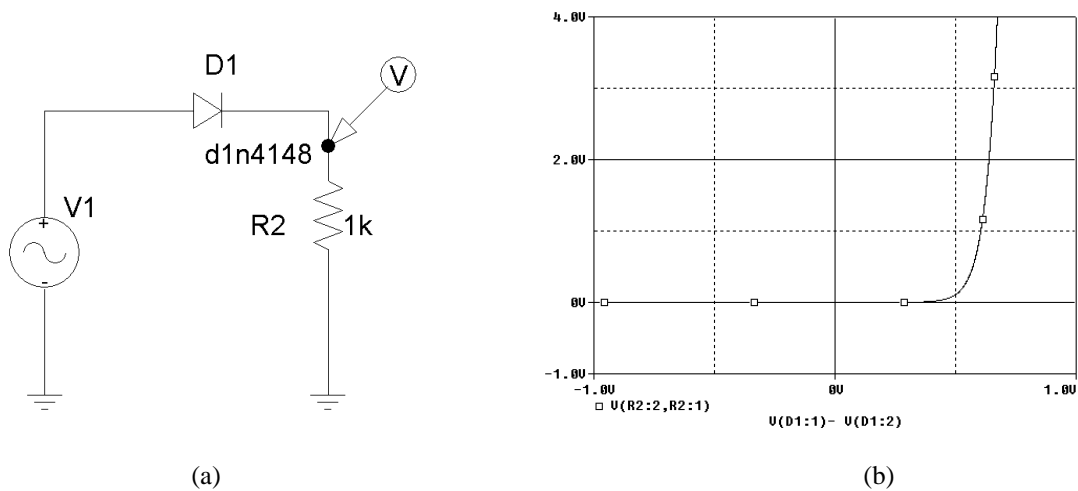

Fig 3. (a) Diode Test Circuit for I-V Characteristic in PSpice and (b) Resulting Waveform
Diode I-V Characteristics: to examine the I-V characteristics of a diode one can setup a test circuit like that shown in Fig 3(a). Measure the voltage drop across the diode (V_D) and across the resistor (RI_D) for different values of V1 (note carefully the polarities of the measured voltage drops, and the current now being scaled up by the resistor value). The resulting measurement points should lie on the line shown in Fig 3(b), which clearly shows the exponential relationship previously given for the diode current.
1. Using PSpice, set up the circuit shown in Fig 3(a). Perform a DC sweep analysis for the source V1 from -1 to 1 V. To do that, in the menu bar go to Analysis --> Setup --> check DC sweep --> DC sweep --> choose voltage source as your variable type, and input the source name. Then choose linear sweep and set your start and end values. Use an increment of at most 5mV. Note: since the added source is an AC source, initialize its configurable parameters to 0. Otherwise, you will receive error messages and the simulation will not run.
2. The resulting waveform will have the voltage drop across the resistor on the Y-axis and the swept voltage on the X-axis. To obtain the waveform in Fig 3(b), you will need to modify the parameter for the X-axis. To do so, double click on the X-axis --> Axis Variable. In the trace expression, select the node potential V(D1:1), insert a – sign, then select the node potential V(D1:2) --> OK. Your waveform should now resemble Fig 3(b). Attach the waveform to your pre-lab report. What is the approximate ON voltage of the diode?